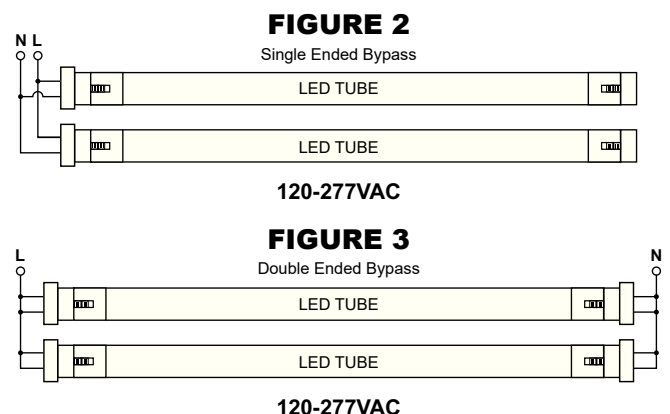

FIGURE 2
4. Connect the 120–277VAC supply to the lampholder's non-shunted socket(s). Connect L (line) to one lead and N (neutral) to the other lead, as shown in Figures 2 or 3.